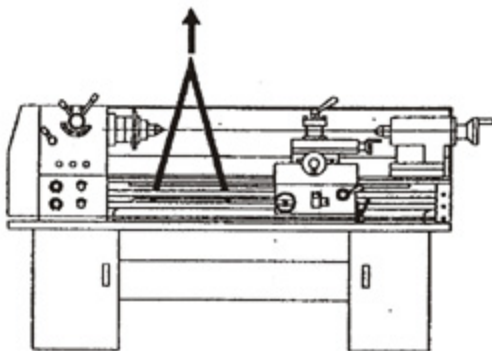

Figure 2: **Hoist lathe and position into place**
4. Properly sling the lathe as shown in **Figure 2** while it is being transported and hoisted into place.